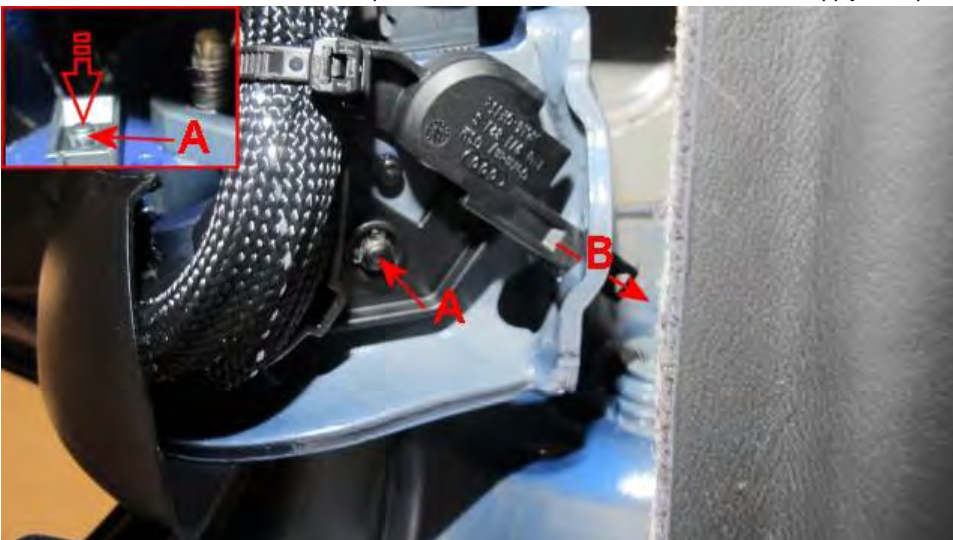

Figure 5
4. Refit harness clip - slide harness clip over hinge ensuring latch 'B' is inserted in slot in hinge (see Figure 5)
5. Reinsert pin 'A' through clip and hinge (see Figure 5)